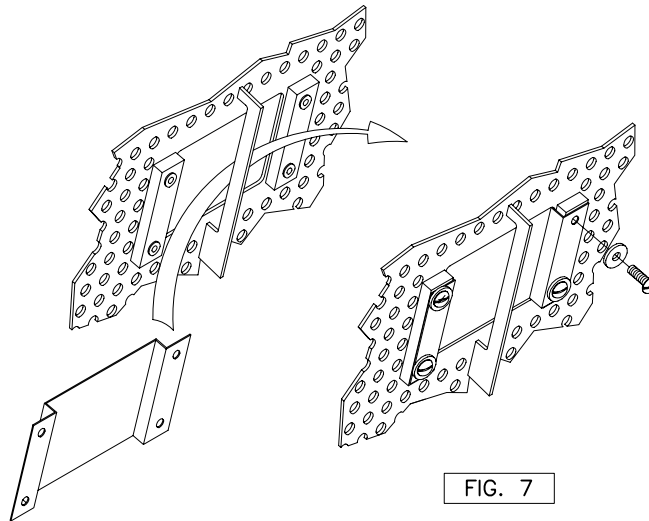

FIG. 7
After engraving is complete, assemble plaque (E3) to the bench using four (J) and one (K) per each machine screw, see Fig. 7. Thread plaque between center bracket and window of bench panel. Align holes, insert screws and tighten.